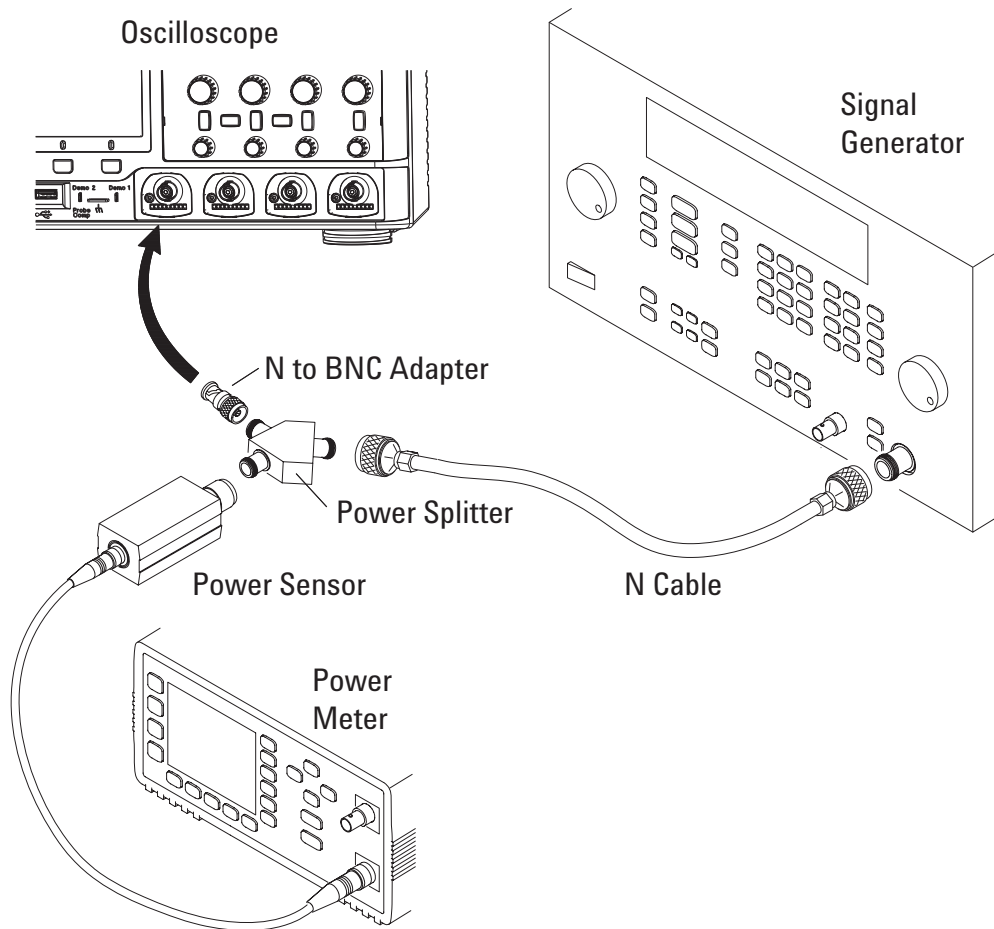

Figure 7 Setting Up Equipment for Band width (-3 dB) Verification Test
- 1 Connect the equipment (see **Figure 7**).